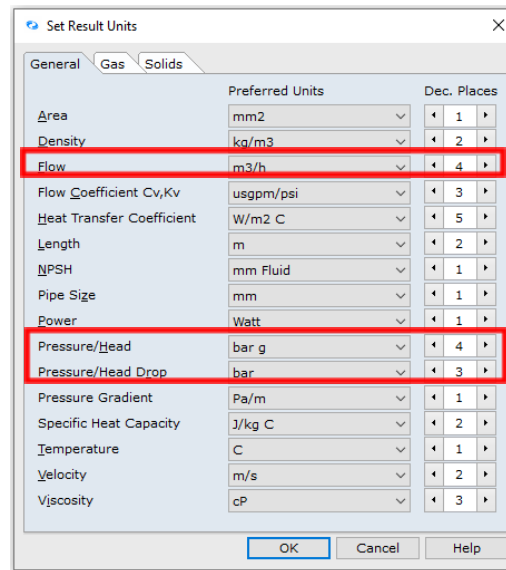

Figure 21: Modified Set Result Units Dialogue Box.
23. The Set Result Units dialogue box should now look like the screenshot given below (Figure 21). Select **OK** to apply the changes.